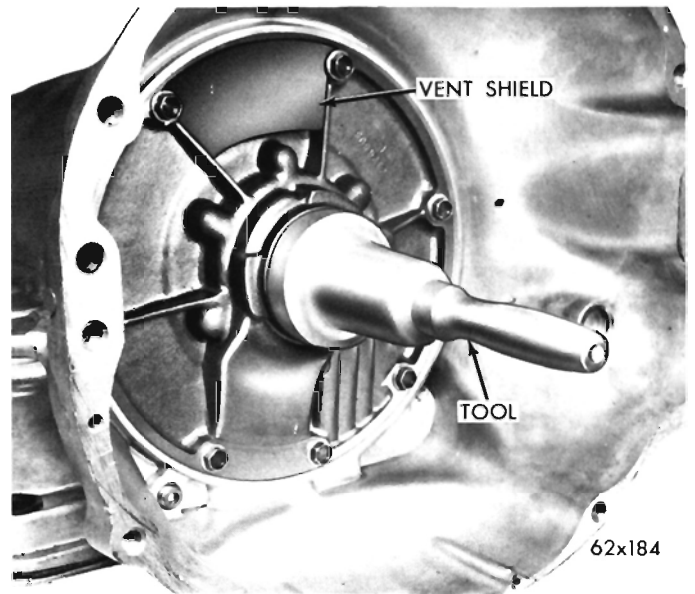

Fig. 64—Installing Front Pump Oil Seal
(2) **A-904-G and A-904-LA:** To install a new seal, place the seal in the opening of the pump housing (lip side facing inward). Using Tool C-3757, drive seal into housing until the tool bottoms (Fig. 64).